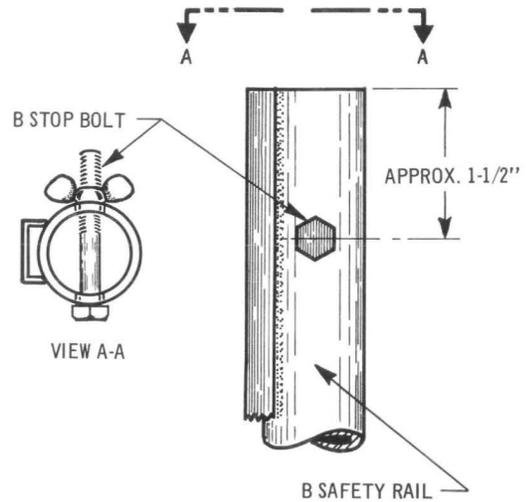

Fig. 11
3.12 The B Stop Bolt should be installed at the top of the uppermost section of safety rail. A 5/16-inch hole should be drilled approximately 1-1/2 inches below the top of the rail section, parallel to the guide channel. The stop bolt is inserted and the wing nut is pulled up tight. This stop bolt prevents the safety sleeve from inadvertently riding over the top of the rail. (See Fig. 11.) *It should not be removed from the rail.*